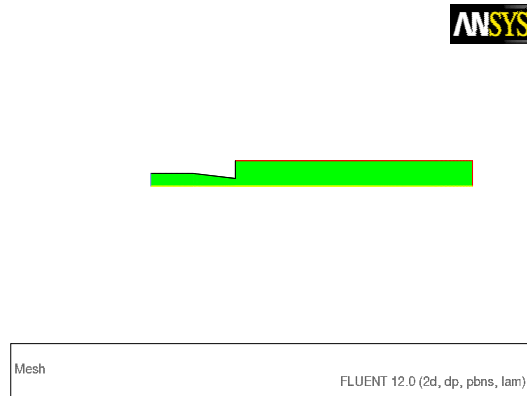

Figure 18.2: Default Display of the Nozzle Mesh
2. Examine the mesh (Figure 18.2).